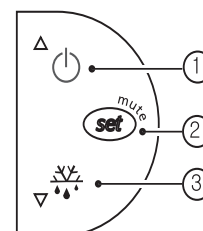

Fig 8-2
8.3 Button Symbols (Fig 8-2)
- ①,: Output ON/OFF if pressed for over 3 seconds.
- ②,: Changes operating values if pressed for 1 second.